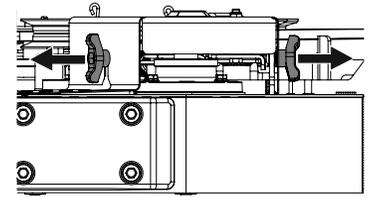

Figure 46
2. Remove the hex thumb screws securing the belt covers to the deck. See Figure 46.